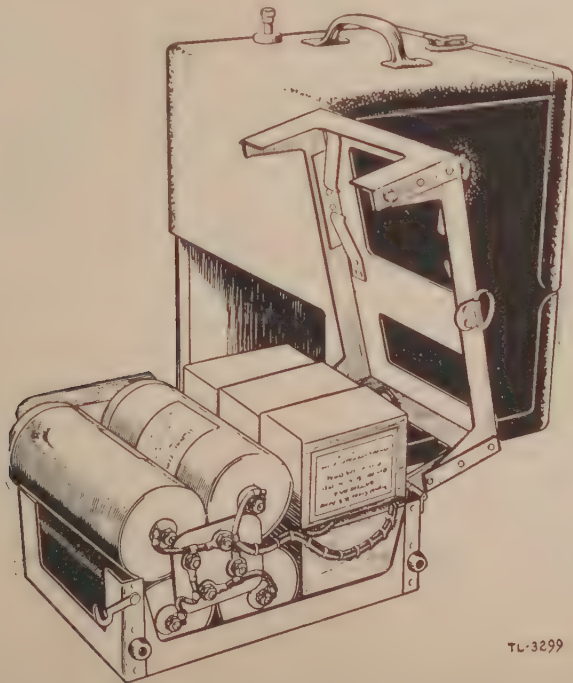

Figure 35. . Frequency Meter BC-221-(2), loaded battery tray with sections separated to show construction.
b. DESCRIPTION OF BATTERY TRAY. The tray (fig. 35), is hinged at one end and held in place by two hooks near the opposite end. When the hooks are released, the tray should open easily and spread out to allow changing of the batteries. Place the opened battery tray so that the ring used to remove it faces the operator. Three of the six *B* Batteries BA-2 are placed in the right-hand section of the tray (the lower half), against the terminal board which is secured to the tray.